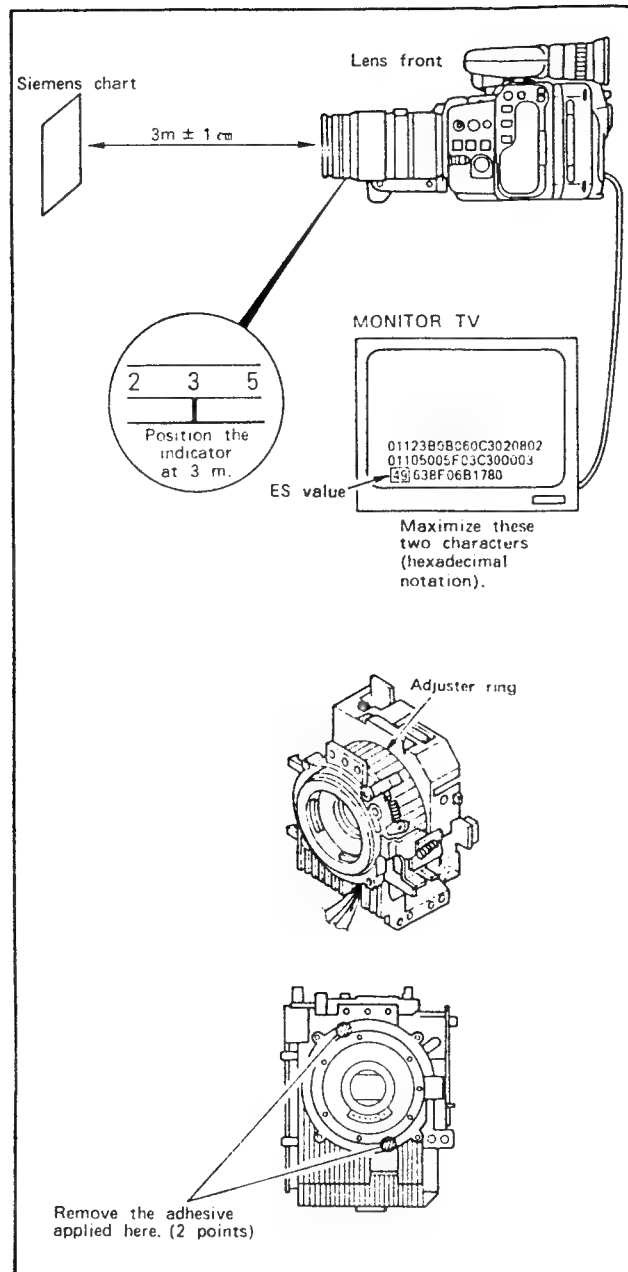

Fig. III-24
- (1) Attach the 15x lens to the main unit as shown in the Fig. III-24.
- (2) Remove the adhesive on the adjuster ring.
- (3) While observing the siemens chart on the monitor TV, turn the focusing ring with a tweezers and stop at the best focused position.